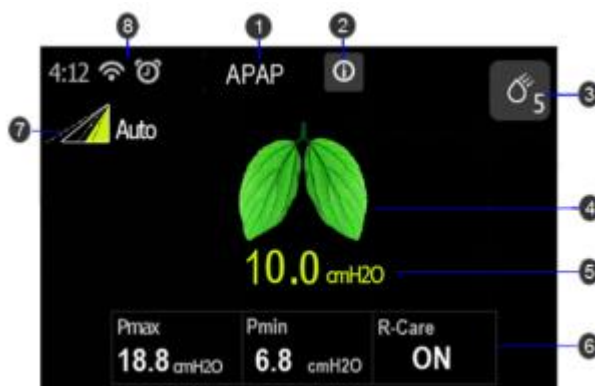

Figure2 Patient Therapy Interface
3. Press the Therapy On/Off key on top of the device to turn on airflow and begin therapy. The screen will display to patient therapy clean interface (see Figure 2).
When the therapy starts, the screen will switch to the Patient Therapy Interface, which displays the therapy parameters monitoring during therapy (See Figure2). The displayed parameters depend on the current therapy mode.